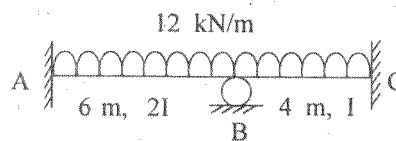

Fig. 2
8. Analyse the continuous beam shown in Fig. 2 using slope-deflection method. Draw BMD. 3